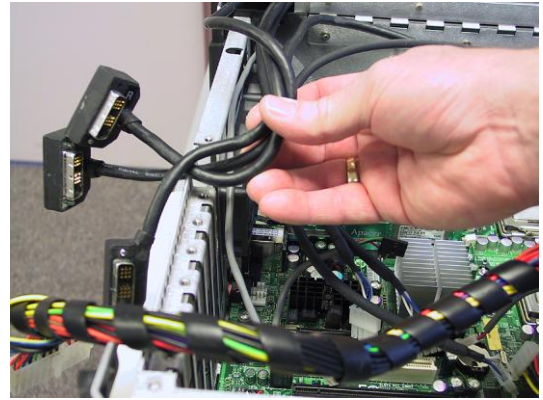

Figure 5-99
- 6) Remove the 3 video data cables for the slot leading to the exterior of the left side of the chassis. The triple-screen MaxPac 8230 XRA3 is shown in figure 5-99